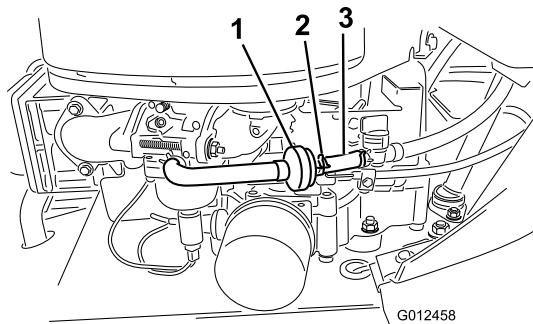

Figure 30
9. Remove the drain plug to allow the oil to drain (Figure 30).
7. Loosen the hose clamp at the fuel filter and slide it up the fuel line away from the fuel filter (Figure 30).
8. Pull the fuel line off the fuel filter (Figure 30).
11. Slide the hose clamp close to the fuel filter to secure the fuel line (Figure 30).
The best time to replace the fuel filter (Figure 30) is when the fuel tank is empty. Never install a dirty fuel filter after it has been removed from the fuel line.